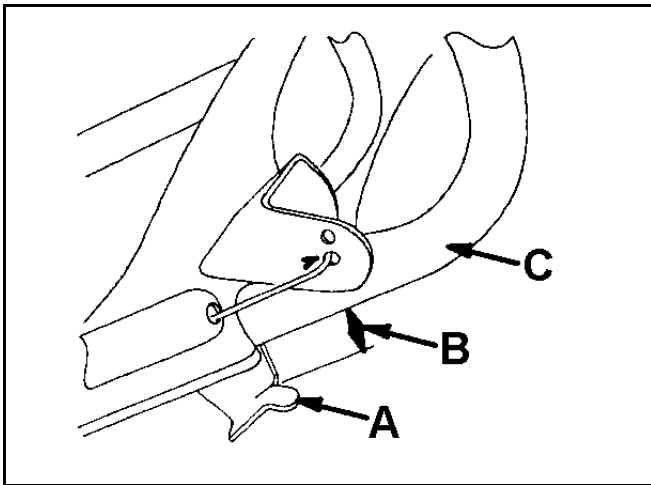
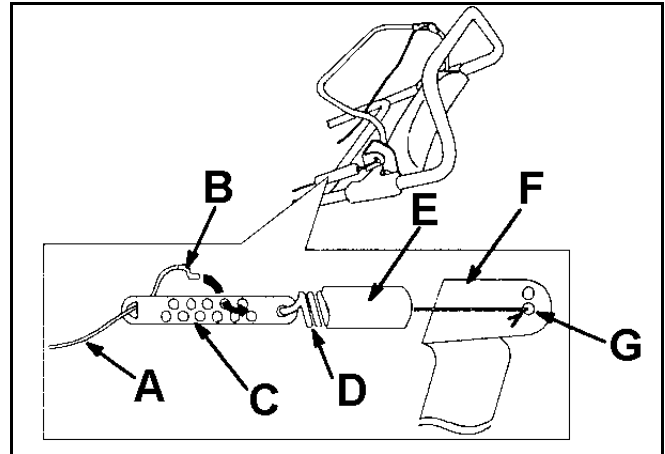

Figure 80
Figure 81
3. Ensure that a 1/8 to 1/4 inch (3 to 6mm) gap exists between the control bar bracket and the handle as shown in Figure 80.
1. Unhook the spring end from the hole in the center of the control bar bracket (G) as shown in Figure 81.
3. Unhook the Z-fitting from the cable adjuster (Figure 81), and position it in a different hole on the adjuster to obtain specified gap of 1/8 to 1/4 inch (3 to 6mm) between the control bar bracket and the handle (Figure 80).
5. Hook the spring into the hole in the center of the control bar bracket as shown in Figure 81.
**NOTE:** After extended use, the drive belt may wear and result in a loss of belt tension. Improper belt tension allows the belt to slip and decreases the performance under a heavy load. Belt slippage may occur after two or three seasons of normal usage (10 to 15 hours). If the drive belt slips (continuously squeals) under a heavy load, increase the belt tension by positioning the spring end in the other hole in the control bar bracket as shown in Figure 81. Adjust the gap between the control bar bracket and the handle to 1/8 to 1/4 in. (3 to 6mm).